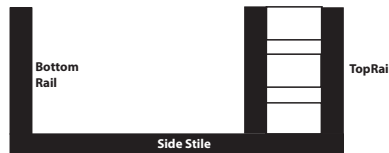

Figure 8
Take the starter panel (J1) and slide into the door frame below the transom section. See Figure 8. Make sure it fits snug into the stile channel. Gently tap into place with the rubber mallet if necessary. Repeat with the remaining panels (H), making sure the tongue sides of the panels are inserted first. End panel will be the last panel (L1). See Figure 8A. Make sure the panels fit snugly and gently tap if necessary. Refer to Door overview for layout.